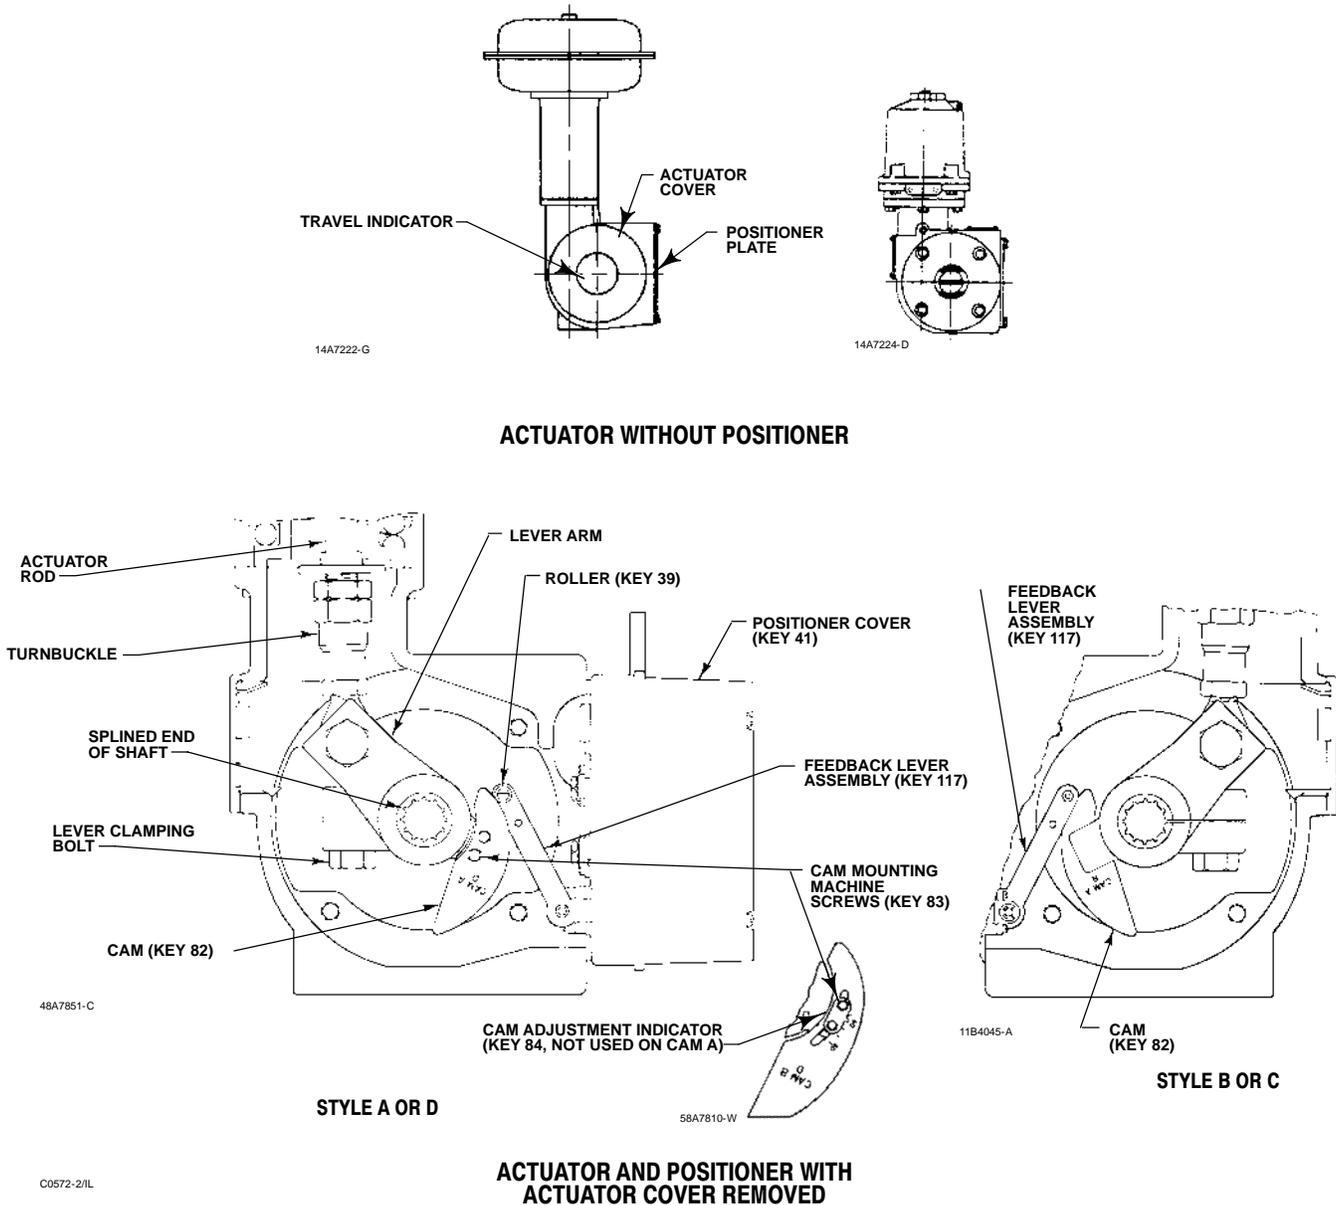

Figure 3. Typical Mounting Details for 3610J and 3620J Series Positioners on Rotary Actuators
During the following mounting procedures, refer to figure 3 for part locations. Refer to figure 28 for key number locations unless otherwise indicated.
**Cams A, B, and C have the letter D (direct acting) on one side and the letter R (reverse acting) on the other side. Always install the cam with the letter D on the same side as the cam mounting screw heads (key 83, figure 3).**
7. Install the desired cam (key 82) on the actuator lever with the cam mounting screws (key 83). Cams B and C use the cam adjustment indicator (key 84) between the screw heads and the cam. Align the cam adjustment indicator with the desired total valve rotation indication on the cam. Cam A does not use the cam adjustment indicator and does not require adjustment.
During the following procedures, refer to figure 3 for part locations and refer to figure 28 for key number locations unless otherwise indicated.
Cams A, B, and C have the letter D (direct acting) on one side and the letter R (reverse acting) on the other side. Always install the cam with the letter D on the same side as the cam mounting screw heads (key 83, figure 3).